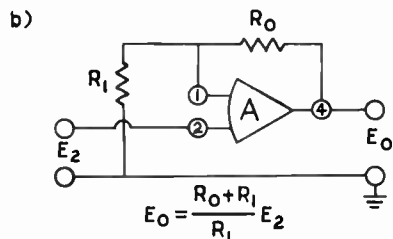

Fig. 11. Basic Amplifier Circuits:
Fig. 11 shows the connections and the gain equations for two basic feedback circuits. The application of negative feedback around the ideal operational amplifier results in another important summing point restraint: The voltage appearing between the differential amplifier inputs, pins (1) and (2), approaches zero when the feedback loop is closed.
Consider either of the two circuits shown in Fig. 11. If a small voltage,